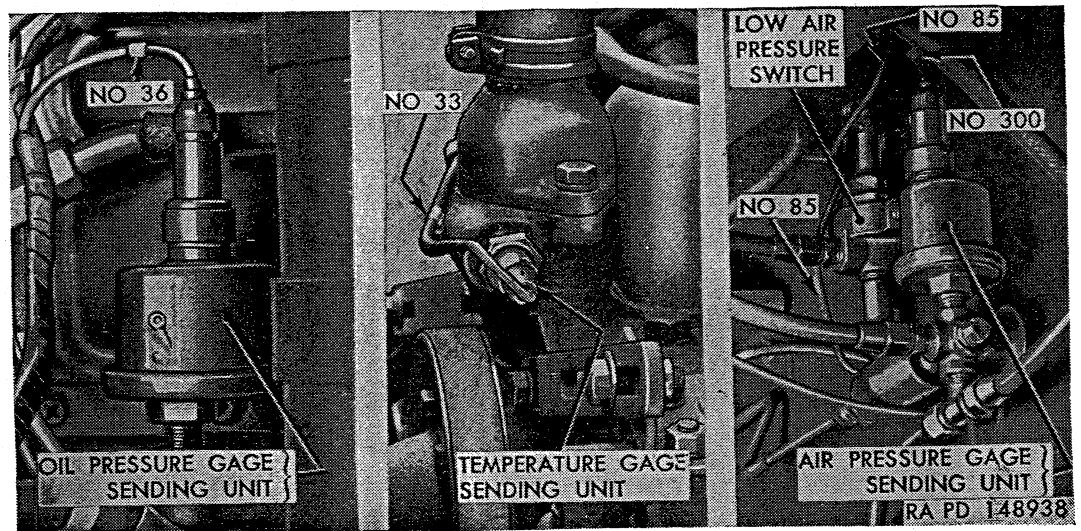

Figure 172. Sending units and low air pressure switch installed.
a. *General.* Oil pressure gage registers oil pressure in engine main oil gallery. Gage circuit is controlled by a sending unit mounted on right side of engine above starter and connected to oil line leading from engine oil gallery to oil filter (fig. 172).
- (1) Position gage in instrument cluster from front side. Place oil pressure gage clamp (k) over two studs on gage, install lockwasher and nut on each stud, and tighten nuts.
- (2) Connect cable No. 36 to female terminal on gage, and connect cable No. 27 from molded splice to male terminal on gage.
- (3) Install instrument cluster (par. 172b).
*d. Oil Pressure Gage Sending Unit Removal* (fig. 172). Disconnect cable No. 36 from terminal on top of sending unit. Unscrew sending unit from bracket on engine cylinder block.
*e. Oil Pressure Gage Sending Unit Installation* (fig. 172). Thread sending unit into bracket on engine cylinder block and tighten. Do not use sealing compound on sending unit threads as the electrical circuit is grounded through the sending unit mounting. Connect cable No. 36 to terminal on top of sending unit.
*a. General.* Temperature gage in instrument cluster registers temperature of engine coolant in degrees Fahrenheit. Temperature gage circuit is controlled by a temperature gage sending unit installed in engine thermostat housing as shown in figure 172.
*c. Temperature Gage Sending Unit Removal* (fig. 172). Disconnect cable No. 33 from sending unit terminal. Unscrew sending unit from thermostat housing.
*d. Temperature Gage Sending Unit Installation* (fig. 172). Thread sending unit into engine thermostat housing and tighten. Do not use sealing compound on sending unit threads as the electrical circuit is grounded through the sending unit mounting. Connect cable No. 33 to sending unit terminal.
*a. General.* Air pressure gage in instrument cluster registers air pressure in air system. Air pressure gage circuit is controlled by a sending unit. Sending unit (fig. 172) is mounted on cowl inside cab and is connected to air system at air line junction fitting on cowl.
*c. Air Pressure Gage Sending Unit Removal* (fig. 172). Exhaust air pressure from air system. Disconnect cable No. 300 from sending unit terminal. Unscrew sending unit from air line junction fitting on cowl.
*d. Air Pressure Gage Sending Unit Installation* (fig. 172). Thread sending unit into top of air line junction fitting on cowl and tighten. Do not use sealing compound on sending unit threads as the electrical circuit is grounded through the sending unit mounting. Connect cable No. 300 to sending unit terminal.